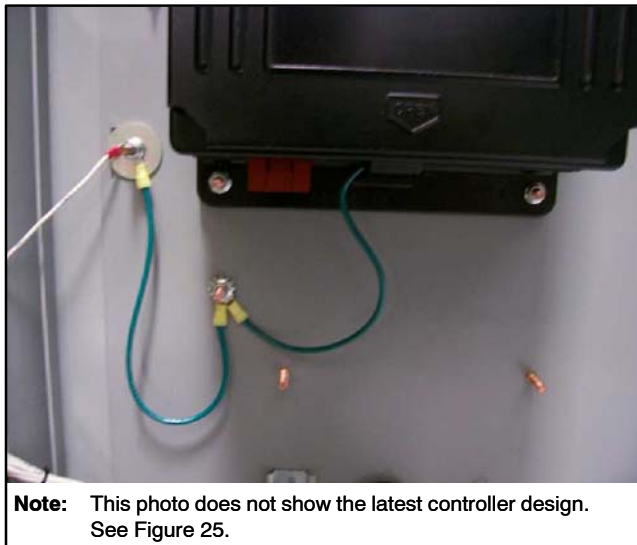

Figure 27 Ground Lead Connections
21. See Figure 27 for ground connections. Use green grounding lead LK-1212-1515 to connect the ground stud on the conversion panel to the ground lug on the door. Using lock washer X-22-12, connect the ground wires to the ground stud on the door. Place the grounding wires between the washer and the nut.